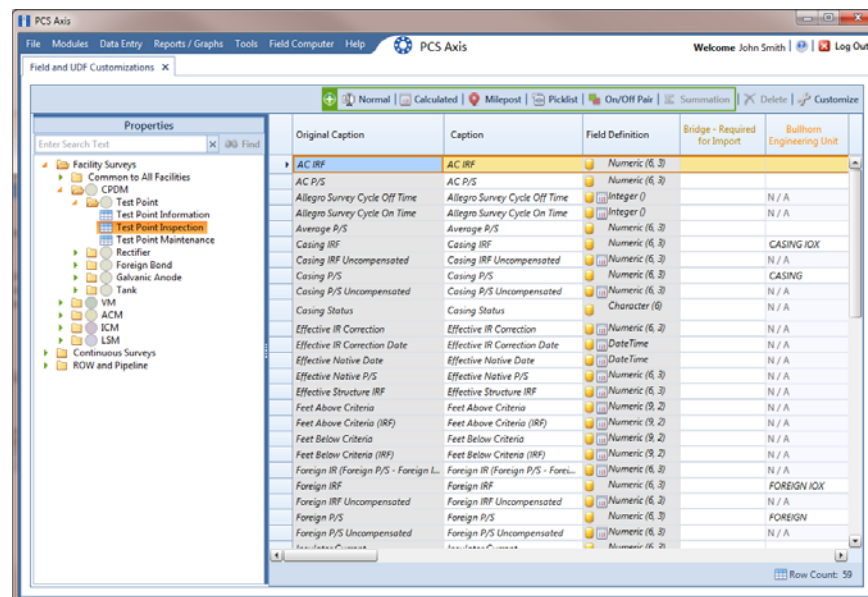

Figure 3-32. Field and UDF Customizations
- 3 Select an item in the *Properties* panel that includes the data entry grid you want to add a UDF. For example, double-click **Facility Surveys > CPDM > Test Point > Test Point Inspection** to display a grid with fields and property settings related to the *Test Point Inspection* data entry grid (Figure 3-32).